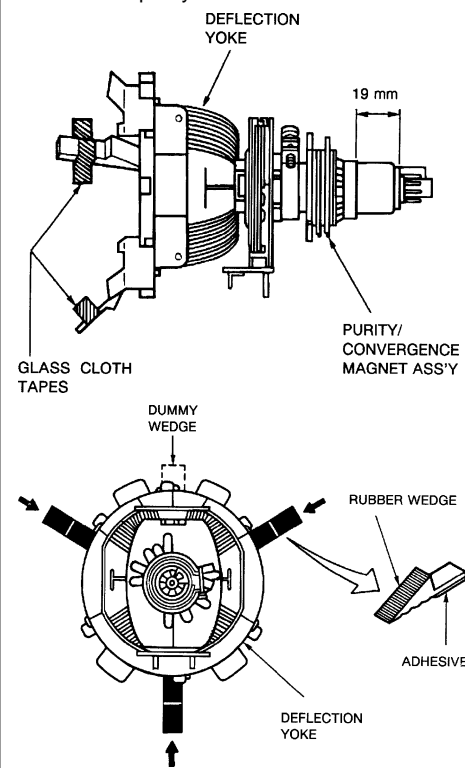

Fig. 1
Note: The PURITY/CONVERGENCE MAGNET assembly and rubber wedges need mechanical positioning. Refer to figure 1.
2. Temporarily put a wedge as shown in figure 1. (Do not remove cover paper on adhesive part of the wedge.)
9. Stick three adhesive tapes on wedges as shown in figure 1.